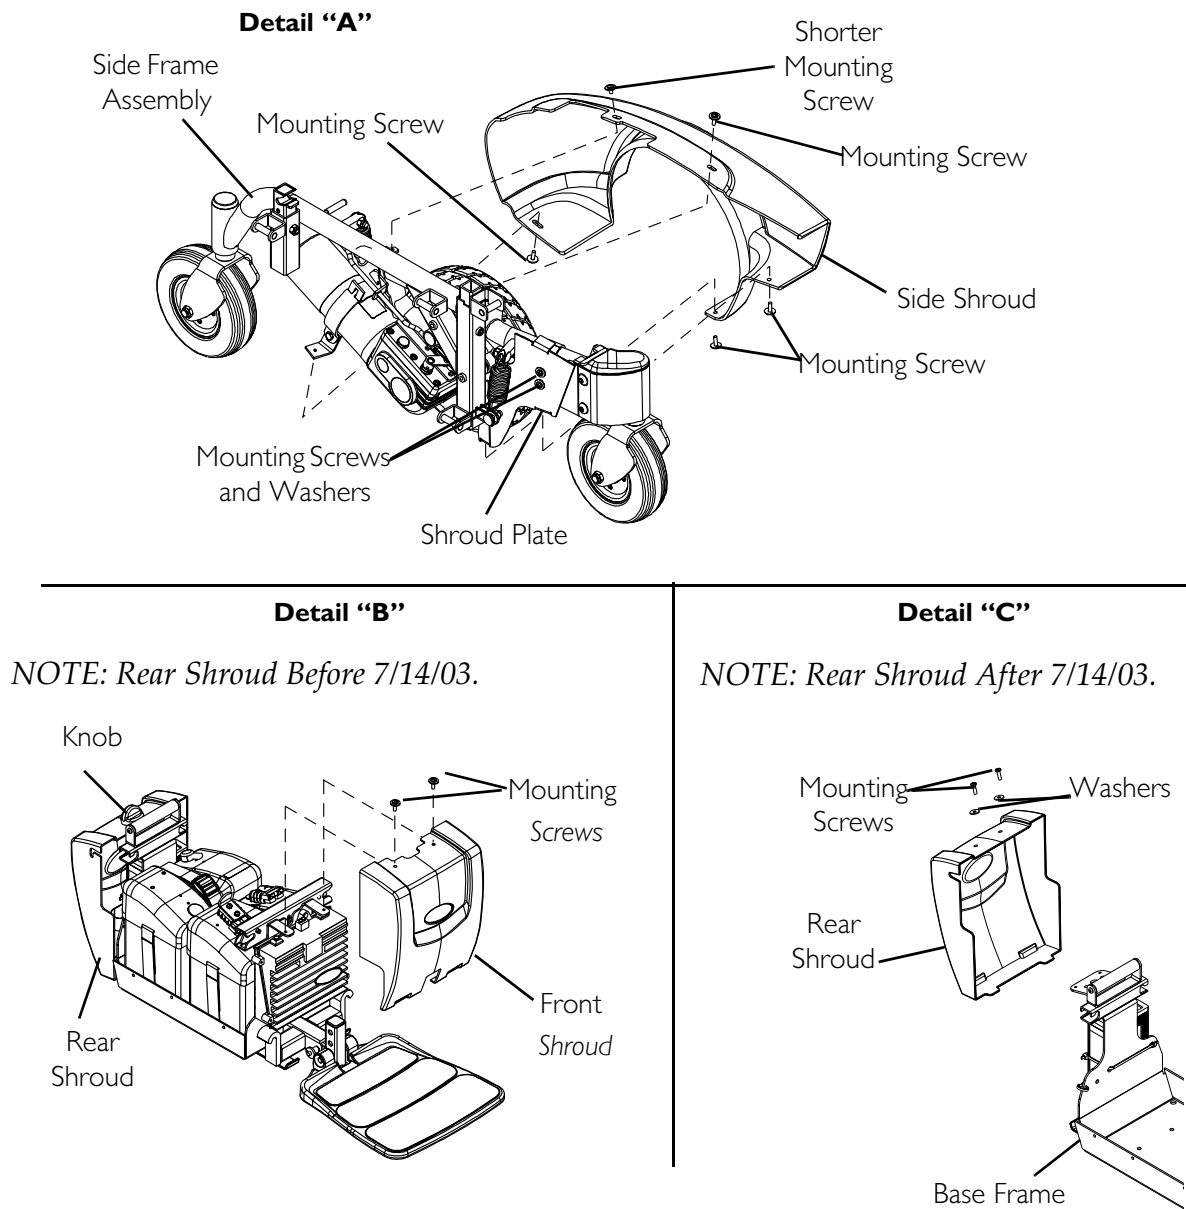

FIGURE 8.1 Removing/Installing the Shrouds
NOTE: For this procedure, refer to FIGURE 8.1 on page 75.
NOTE: Shorter mounting screws are used to secure the top rear of side shrouds (Detail "A" of FIGURE 8.1).
- B. Shroud Plate - Remove the two mounting screws and washers securing the shroud plate to the side frame assembly (Detail "A" of FIGURE 8.1).
- C. Front Shroud - Remove the two mounting screws that secure the front shroud to the base frame (Detail "B" of FIGURE 8.1).
- i. BEFORE 7/14/03 - Rotate knob 90° and remove rear shroud from base frame (Detail "B" of FIGURE 8.1).
- ii. AFTER 7/14/03 - Remove the two mounting screws securing the rear shroud to the base frame and remove rear shroud from base frame (Detail "C" of FIGURE 8.1).